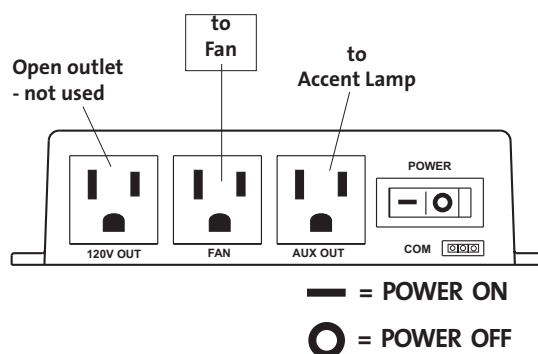

Figure 35a. Fan Control Module power switch.
2. **Turn the Fan Control Module rocker switch to the ON position**, fig. 35a. It is located in the valve compartment, behind the Receiver control box.